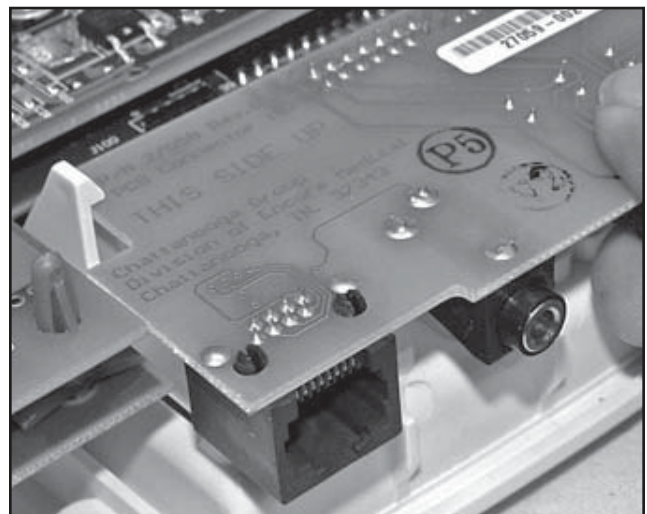

FIGURE 6.33
1. Replace new Connector Board, part number 27059 in reverse order of **steps 1-3** above. Make Certain the words "THIS SIDE UP" on Connector Board are facing up. Make certain Connector Board is completely seated in Stim Board Connector. See Figure 6.33.